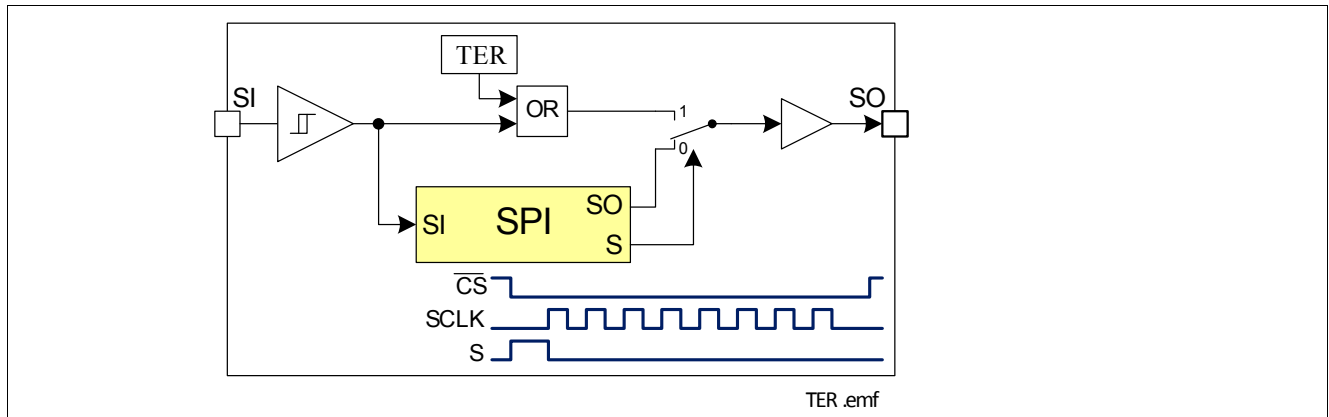

Figure 10 Transmission Error Flag on SO Line
- SO changes from high impedance state to high or low state depending on the logic OR combination between the transmission error flag ( $\text{TER}$ ) and the signal level at pin SI. As a result, even in daisy chain configuration, a high signal indicates a faulty transmission. The transmission error flag is set after any kind of reset, so a reset between two SPI commands is indicated. For details, please refer to Figure 10. This information stays available to the first rising edge of SCLK.